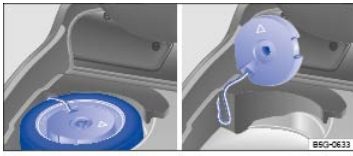

Fig. 146 Under the luggage compartment floor: Subwoofer (if equipped).
- Position the subwoofer vertically and lean it against the side of the luggage compartment so that it cannot tip or fall over → Fig. 146 ⇒ ⓘ.